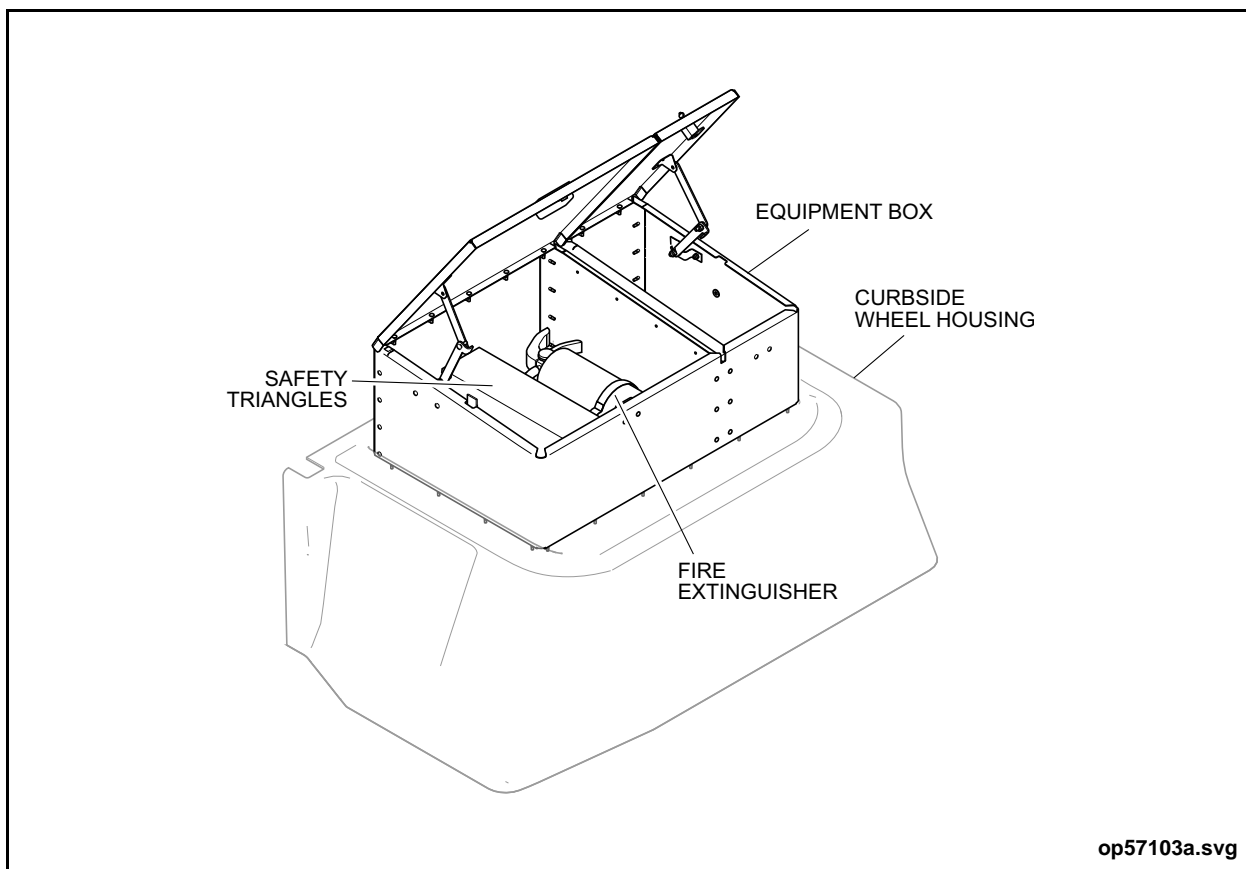

Figure 8: Safety Equipment
- Hand-held fire extinguisher - Use the extinguisher only after the vehicle is in a safe location, and all passengers are evacuated. Use only if there is no risk to your personal safety. See “Figure 8: Safety Equipment” on page 24.